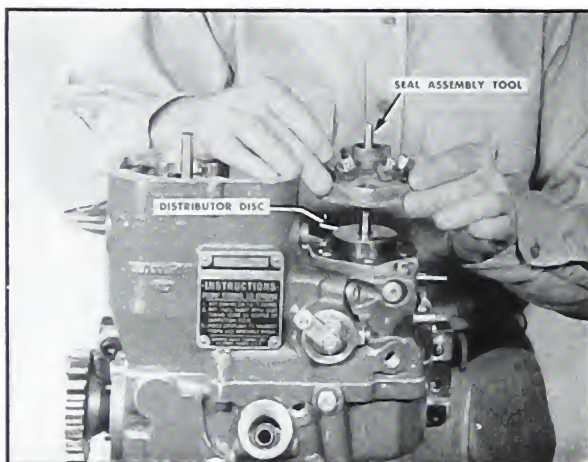

Fig. 5-339. Assemble distributor cover
3. Use a new gasket and place cover in position over the disc drive shaft, being careful not to damage the cover oil seal. The cover is located over a hollow dowel in the housing. Fig. 5-339.